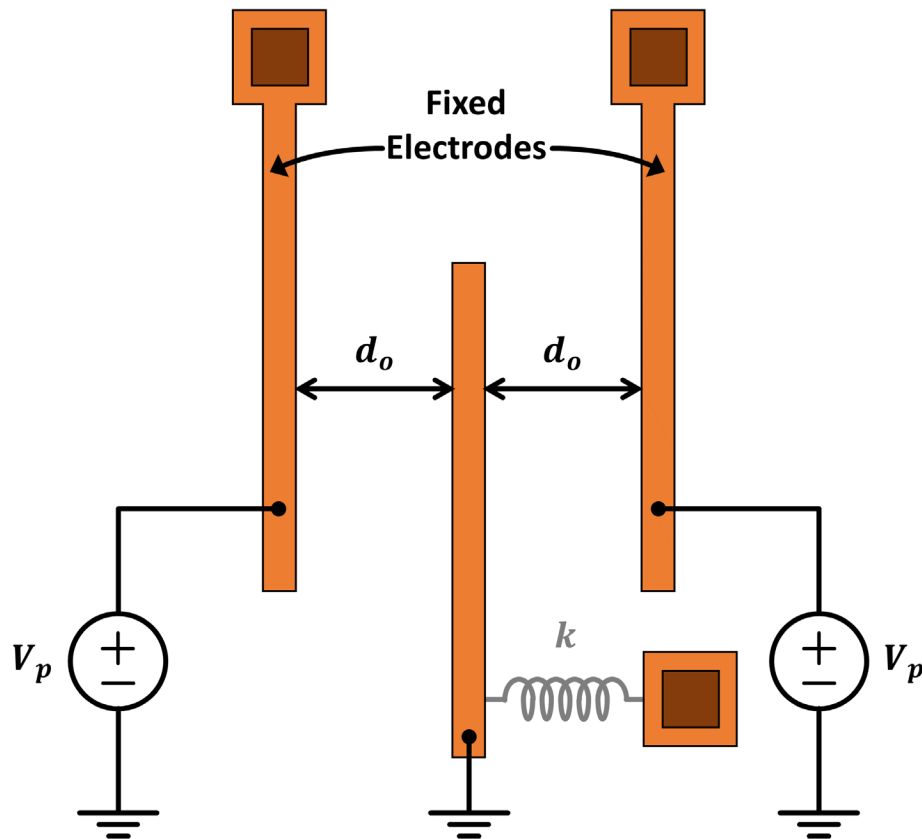

Figure PS5.1
- Fig. PS5.1 shows the schematic of a system of parallel electrodes where the outer plates are fixed and the inner plate is movable. The inner plate is kept at ground potential and outer plates are biased with equal DC voltages V_p to generate equal potential across each electrode gap. The inner plate is also attached to a spring that provides restoring force via stiffness k to keep the plate stable. Note that although the inner plate experiences equal forces on both sides, in a real-world scenario it would snap into one of the electrodes without a spring attachment since even the slightest motion (e.g. due to thermal noise) would generate a force imbalance.